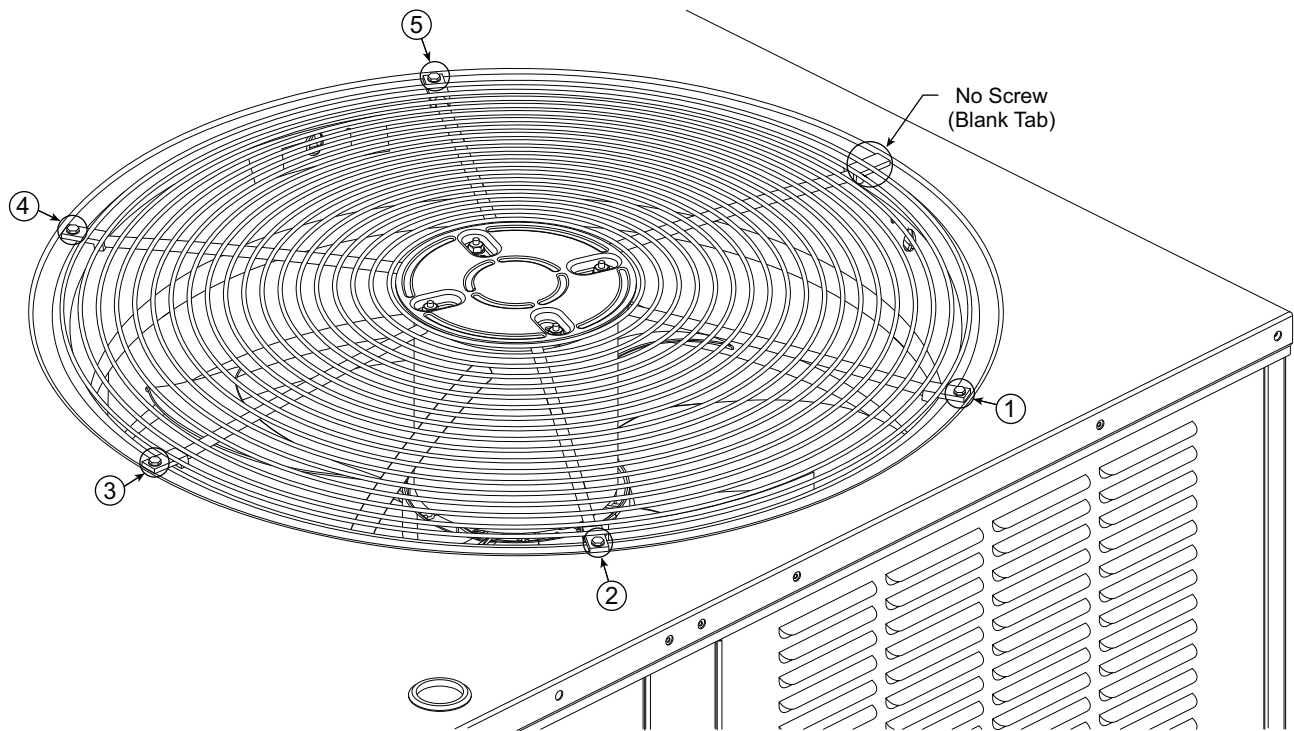

Fig. 31 — Condenser-Fan Assembly — Screw Pattern Sequence
6. Replace condenser-fan assembly. When replacing the condenser-fan assembly follow the screw pattern sequence shown in Fig. 31. The screws must be replaced in the sequence shown in the figure.